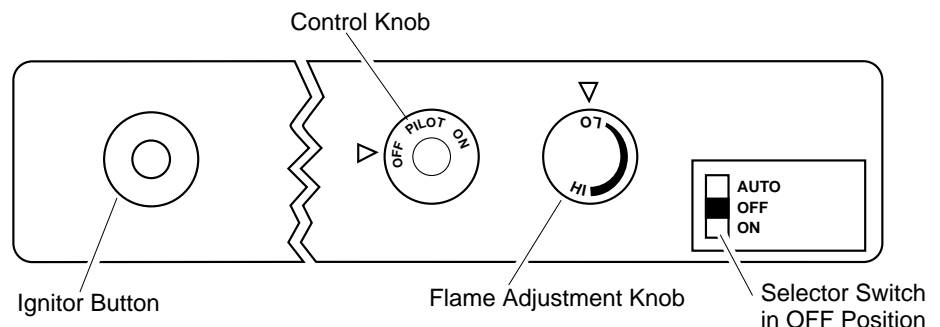

Figure 22 - Control Knob and Ignitor Button Location
- Press in and turn control knob clockwise to the OFF position (see Figure 22).
- Wait five (5) minutes to clear out any gas. Then smell for gas, including near the floor. If you smell gas, STOP! Follow "B" in the safety information above. If you don't smell gas, go to the next step.
- Press in and turn control knob counterclockwise to the PILOT position. Press in control knob for five (5) seconds (see Figure 22).